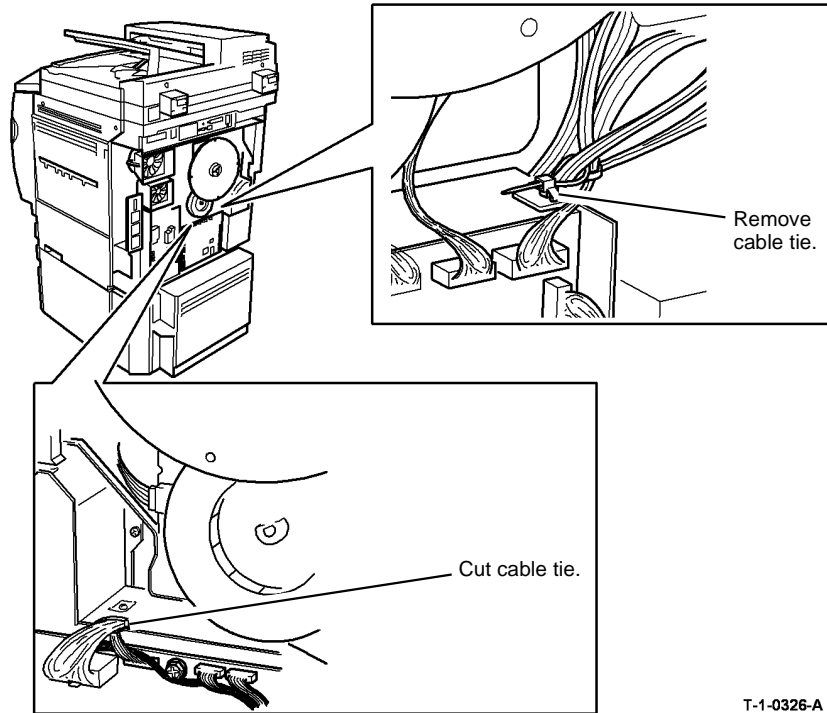

Figure 3 Cable tie and ground connection
6. **Figure 3.** Remove the cable ties.